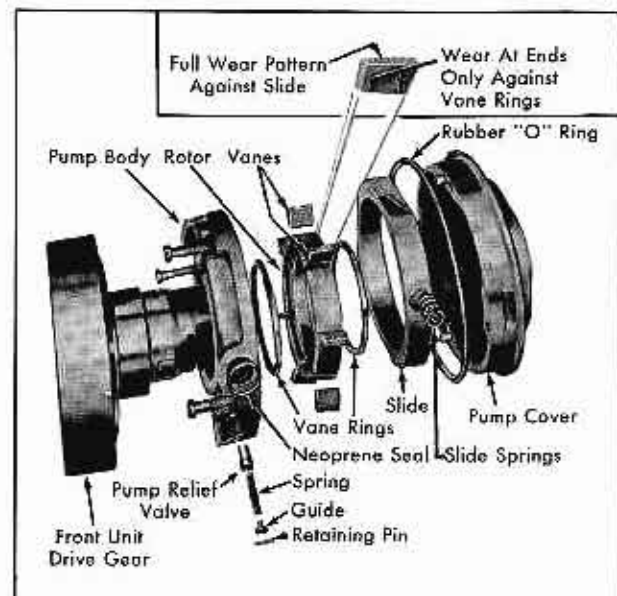

Fig. 14-52 Front Pump - Disassembled
1. Inspect entire unit for dirt, scores or burrs. All edges should be sharp without chamfers on radii, Fig. 14-52.